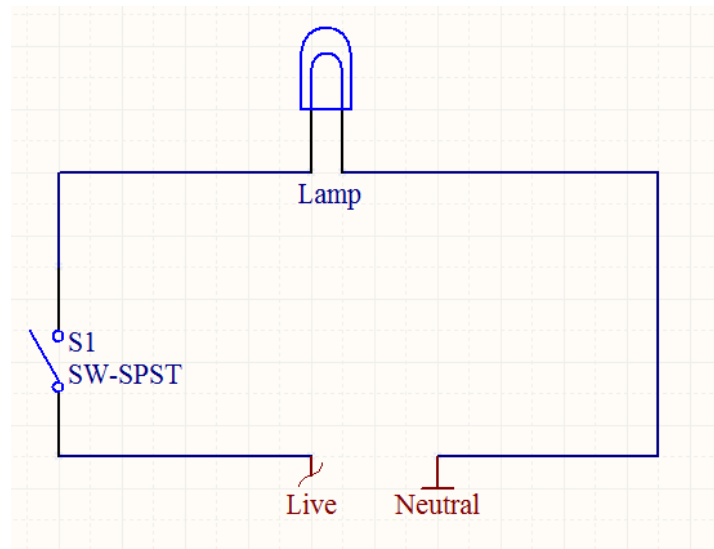

Figure 1: Lamp controlled by a Single Way Switch
2. Connected the circuit according to the circuit diagram as given in Figure 1, keeping the following in mind